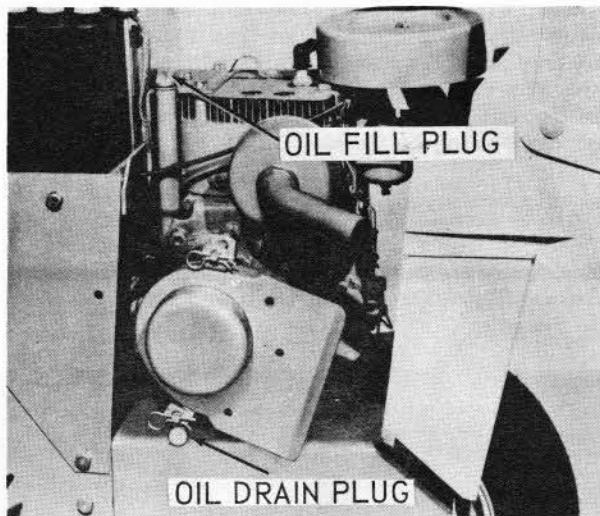

FIG. 10
2. To drain oil, unscrew pipe plug at lower R.H. side of engine, see Fig. 10. Catch oil in suitable container.